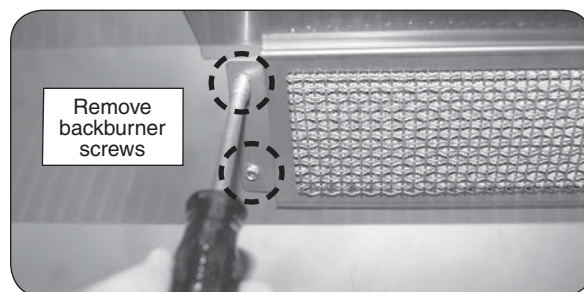

Fig. 31-3 Remove backburner mounting screws
2. Remove the backburner mounting screws (1/4" hex) located at the left end of the backburner assembly (see Fig. 31-3).